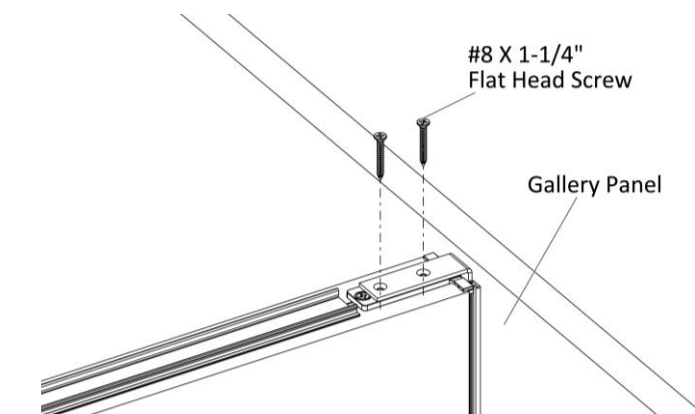

Figure 2
- Position the standard panel to create a "T" Configuration and level the panels accordingly, (Figure 2).